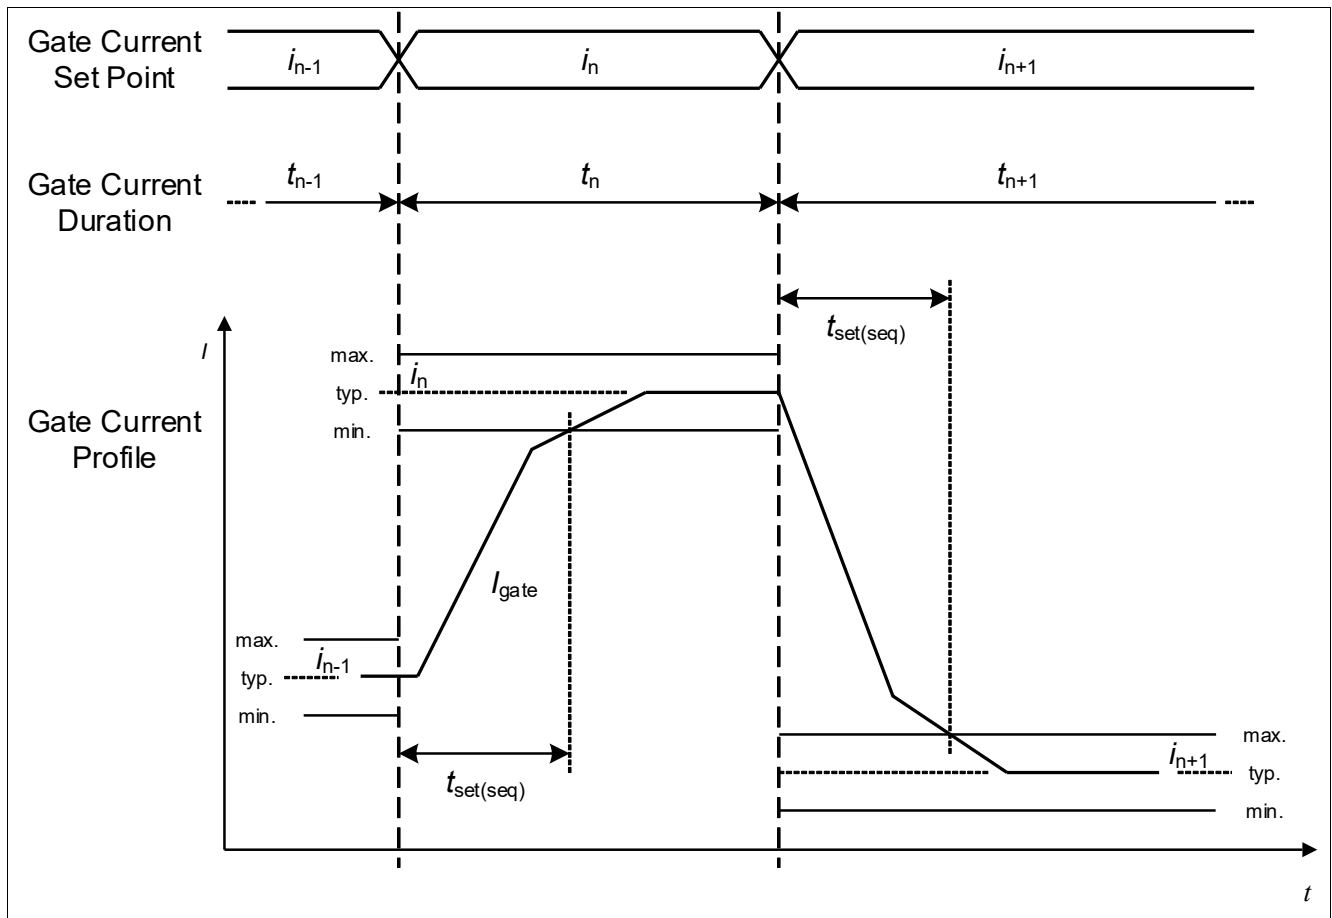

Figure 37 Gate current settling time
- At the transition between two gate current set points the actual gate driver output current settles within $t_{set(seq)}$ to the new gate current set point (see **Figure 37**).